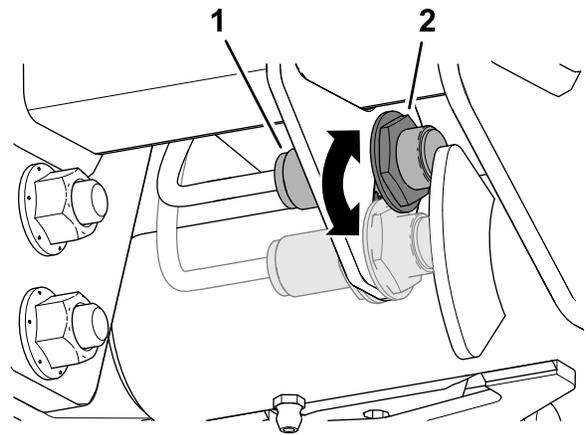

Figure 56
3. Loosen the jam nut that secures lift-arm switch to the switch plate (Figure 56).